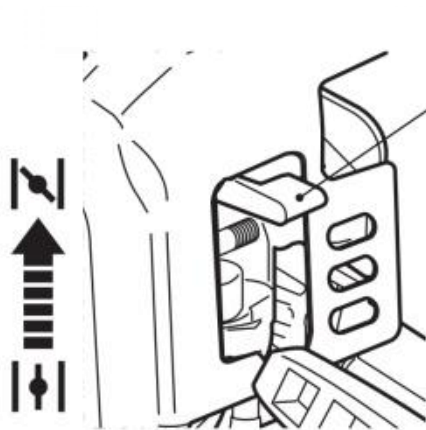

Fig. 29
1. Move the choke (A12) upward to CLOSE position  to close the choke (Fig. 29). Move the choke to CLOSE position for cold start.